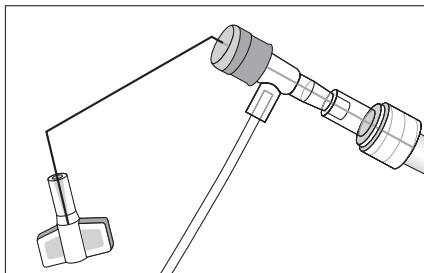

Figure 3
- If provided with a braided placement wire that includes a handle, kink proximal end of placement wire at side-port connector to minimize risk of placement wire exiting distal tip of catheter during insertion (refer to Figure 3).